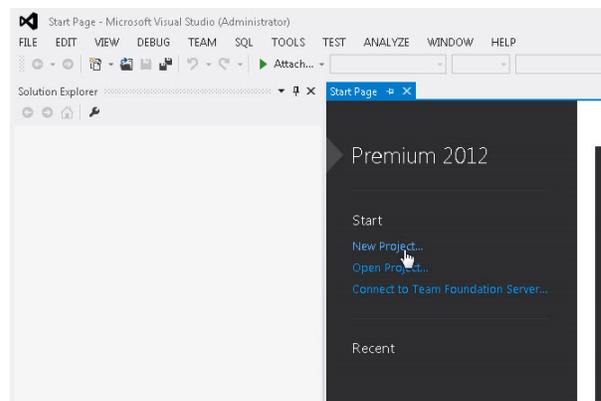

Figure 18. Create New Project
1. Create a new project as shown in Figure 18.